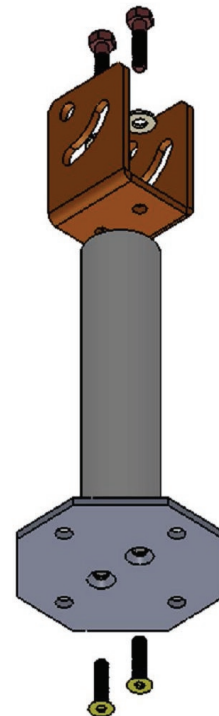

Fig. 2
6. Position your Tilt Leg U-foot Bracket on top of the stand-off as shown in Figure 2.
7. Insert two 1/4" -20 x 1" Hex Head Thread Forming Bolts through the two flat washers and into the obrounds in the base of the Tilt Leg U-foot Bracket and thread into pair of outer holes on the top of the stand-off post as shown in Figure 2. Tighten to 139 in-lbs.